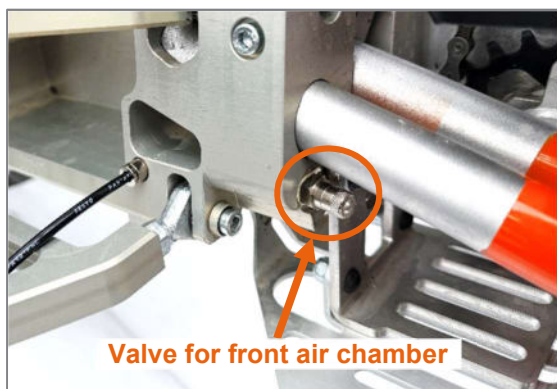

Figure 39: Valve for front air chamber
7. Increase or reduce the air pressure in the damper until the negative suspension travel of 11 mm has been reached. The air pressure is changed with the valve on the front air chamber (Fig. 39), using a damper pump. As a reference value: The correct air pressure for a user weight of 75 kg is 150 psi. Before each new measurement, compress and decompress the dampers vigorously several times so that the negative air chamber is filled and the spring travel is released.